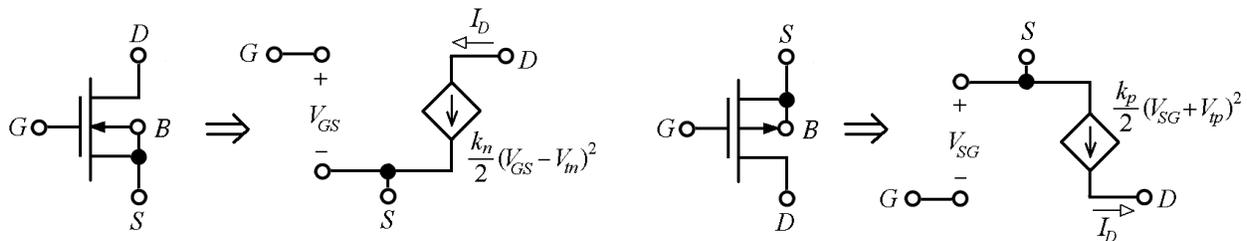

Fig. 7 – Large-signal MOSFET models
- In the *PO* region, the *GS* port still acts as an open circuit, but the *DS* port now acts as a *dependent current source*, which in the case of the *n*MOSFET takes on the form $I_D \cong (k_n/2)(V_{GS} - V_m)^2$, where we are arbitrarily assuming $\lambda_n = 0$ to simplify our DC calculations. Similar considerations hold for the *p*MOSFET, and the two models are shown in Fig. 7.